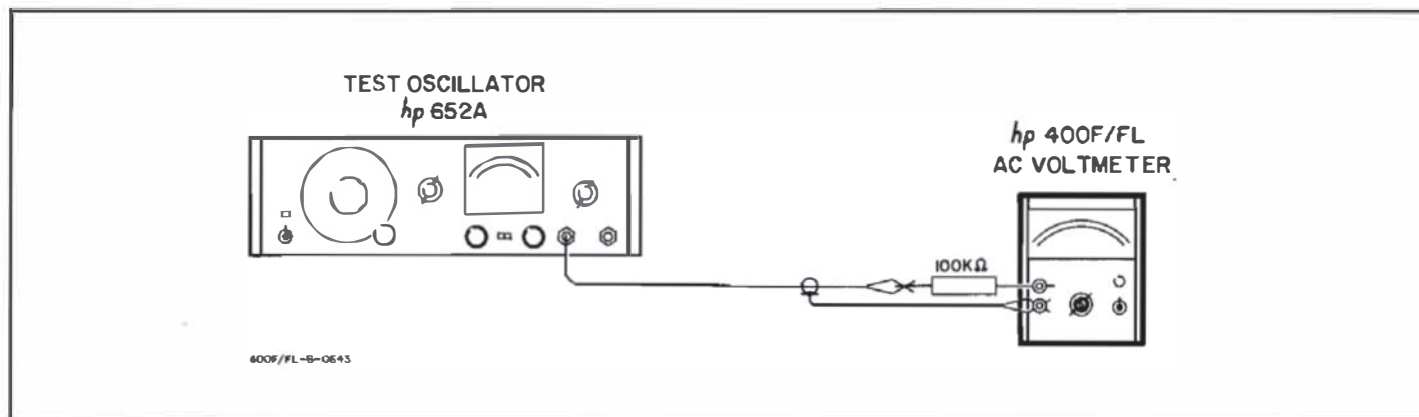

Figure 5-3. Input Impedance Check Setup
- d. Connect a 100 K Ω resistor between test oscillator and 400F/FL as shown in Figure 5-3.
- a. Connect test oscillator and a 100 K Ω resistor to 400F/FL as shown in Figure 5-3. Connect the resistor lead directly to the GR connector.